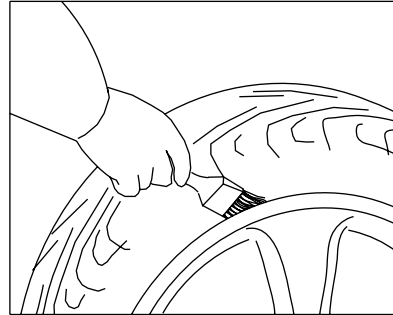

Figure 1-4
- Brush - this is provided for lubricating the tire beak after the tire beads are detached from the rim (shown in figure 1-4)